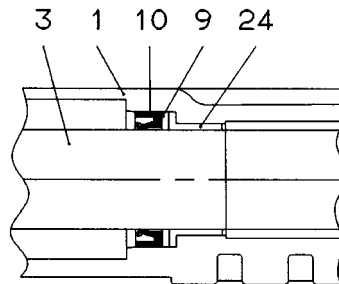

Fig. 24
Put the bearing bush (24), the washer (9) and the seal (10) on tool [13] and press these parts into the housing (1) (Fig. 24).
Alignment of seal (10) (see Fig. 24).